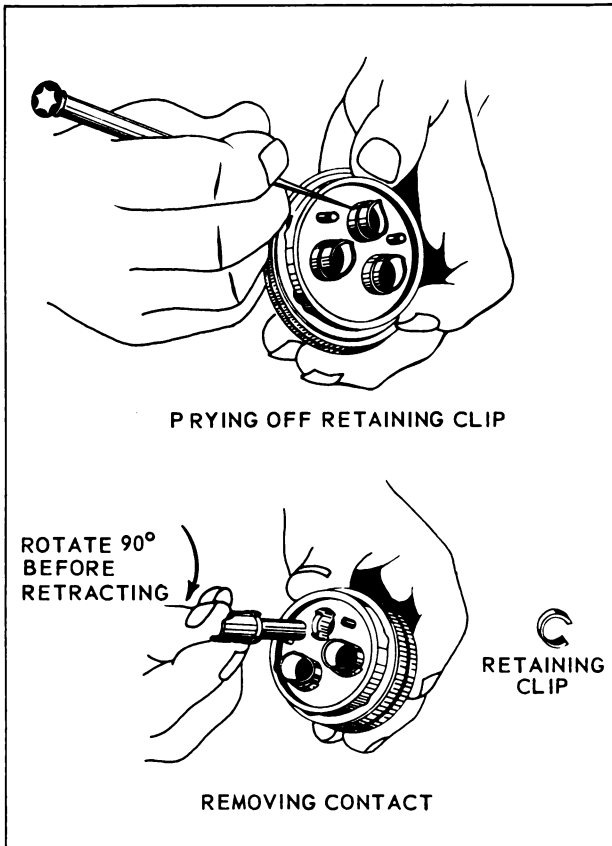

Figure 3-13. Removal of Cannon Clip Held Contacts
a. Cannon spring clip contacts (see Figure 3-13) are removed by prying off the clip using a small screw driver or scribe. Rotate contact 90° and lift out.